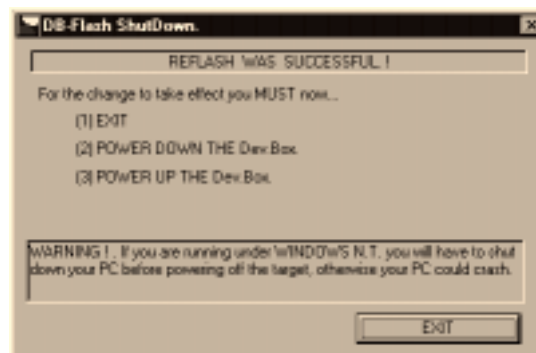

Figure 5.3 The DB-Flash "Success" dialog.
- 12) It takes about 25 seconds to reflash your system's Firmware. Then DBFlash displays a Success dialog like the one shown in Figure 5.3.